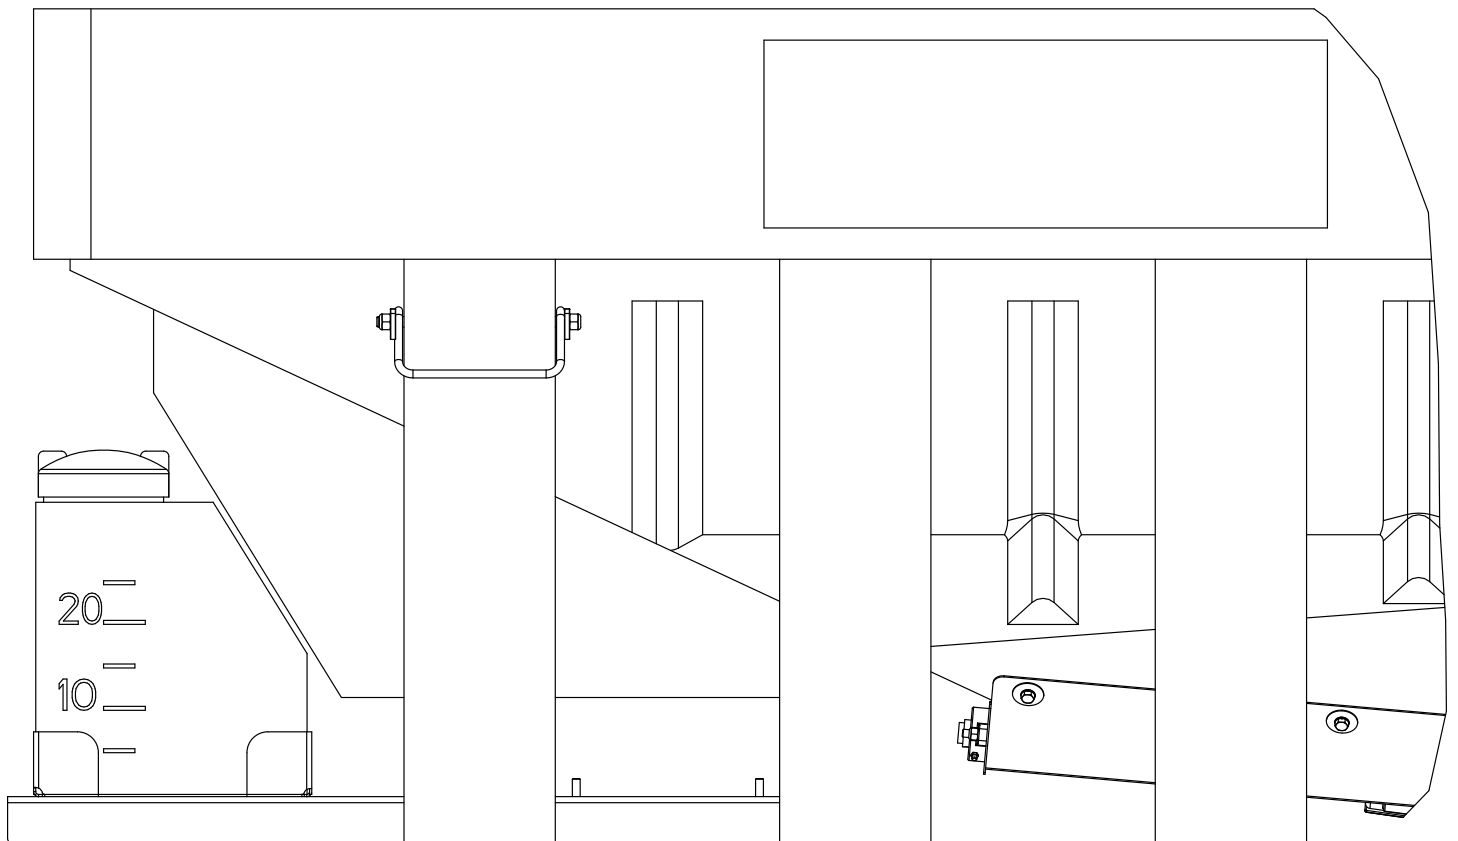

Fig. 2
- 2.** Lower spreader onto support, Make sure support's long brackets are inside of spreader legs openings and screws are between two front legs as shown in Fig.2